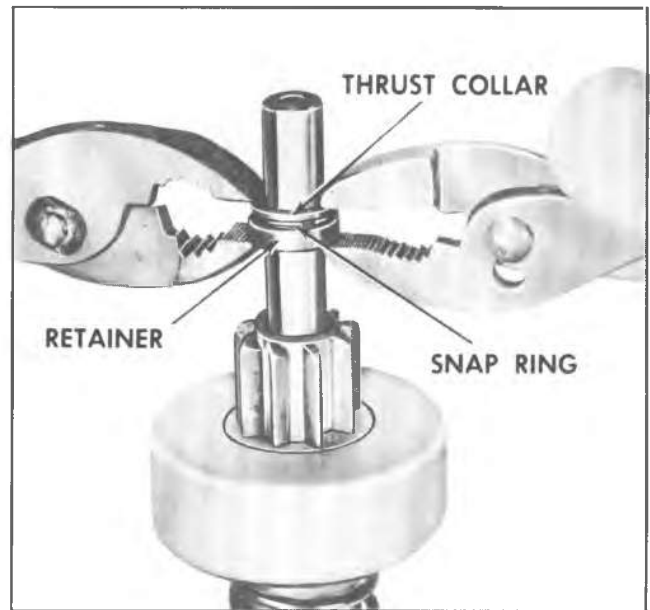

Fig. 6D-10S--Forcing Snap Ring Into Retainer
f. Place armature flat on work bench, and position retainer and thrust collar next to snap ring. Then using two pair of pliers at the same time (one pair on either side of shaft), grip retainer and thrust collar and squeeze until snap ring is forced into retainer (fig. 6D-10S).